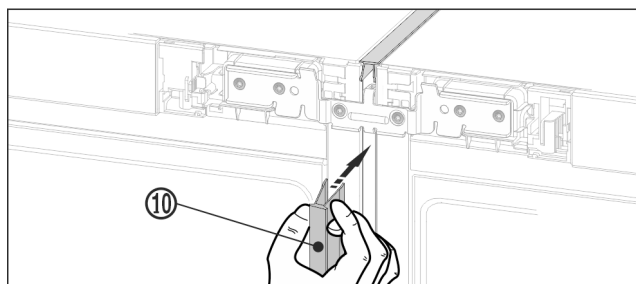

Fig. 20
- On the front, press the long cover strip Fig. 20 (10) into the vertical gap. Ensure that the strip rests on the connecting plate.